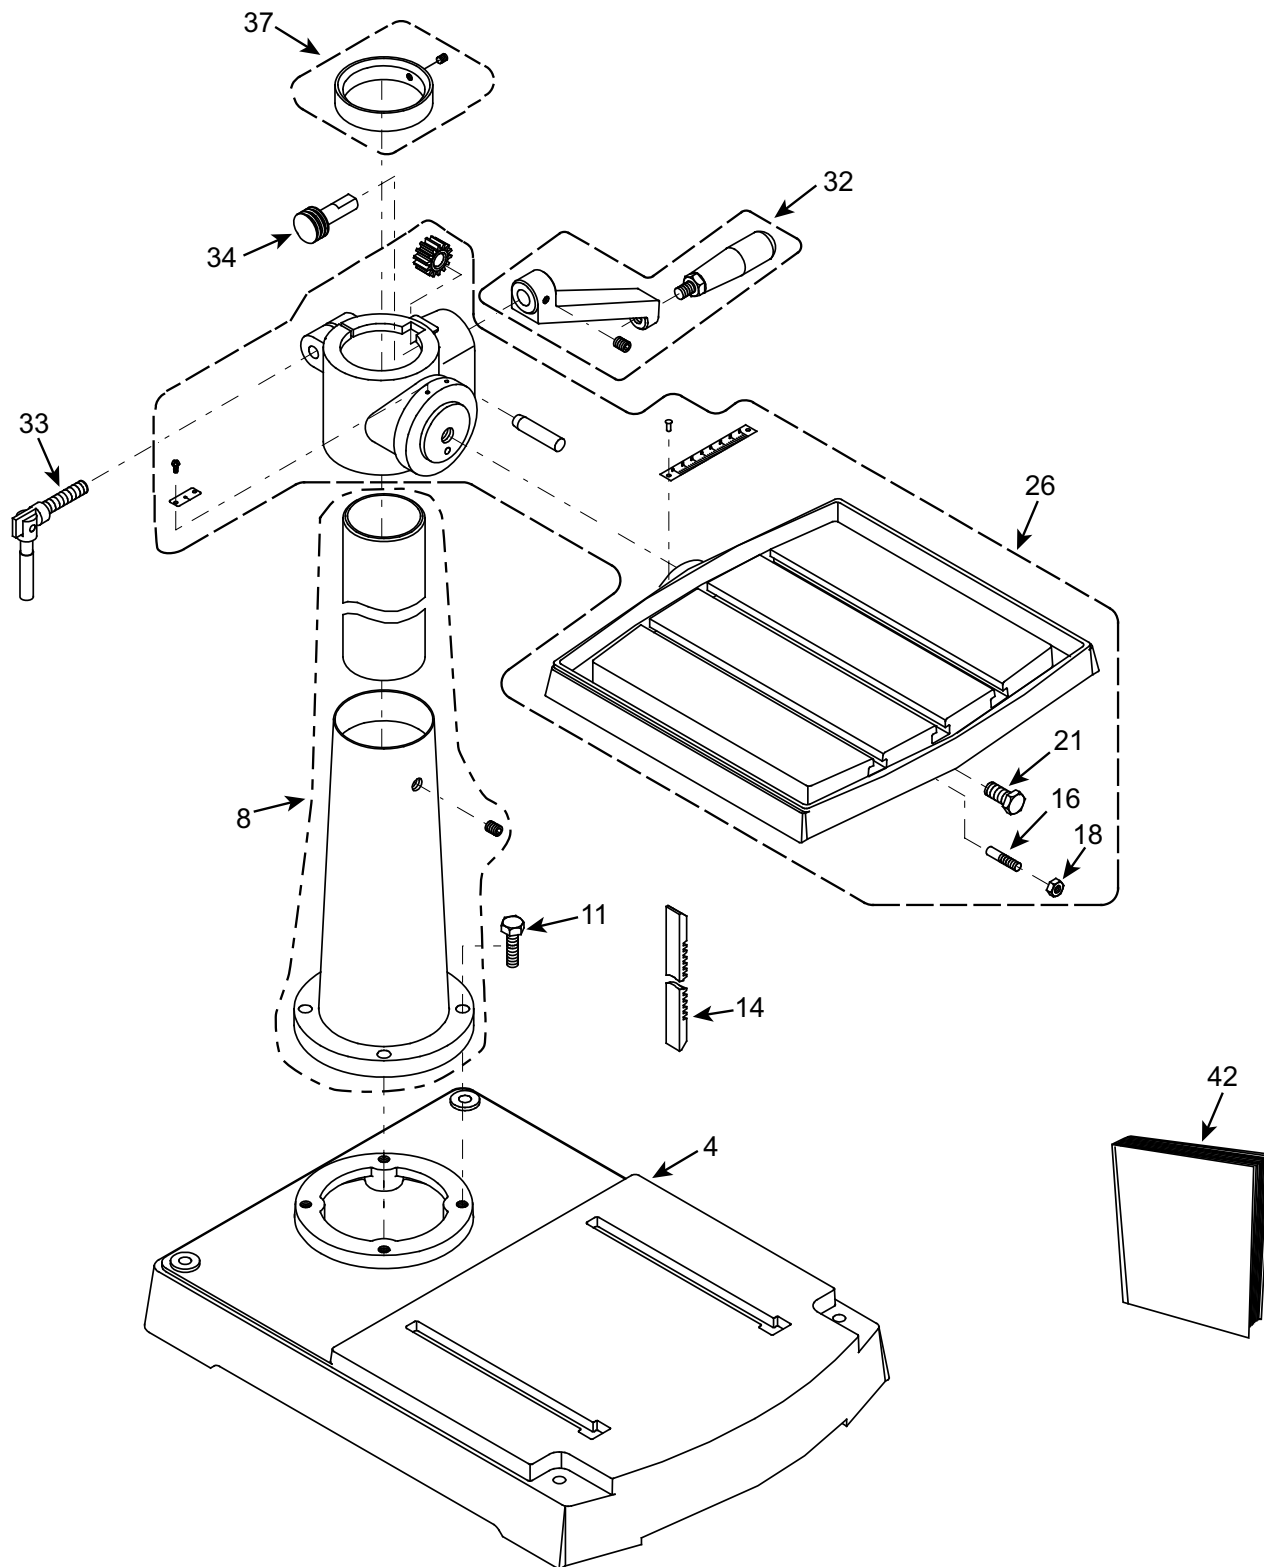

Figure 7 – Replacement Parts Illustration for Base, Column & Table.
Refer to Figure 7.
Refer to Figures 7 and 8.
- Apply lubricant to rack and pinion gear (Figure 7, Ref. Nos. 13 & 34) on column and table assembly.